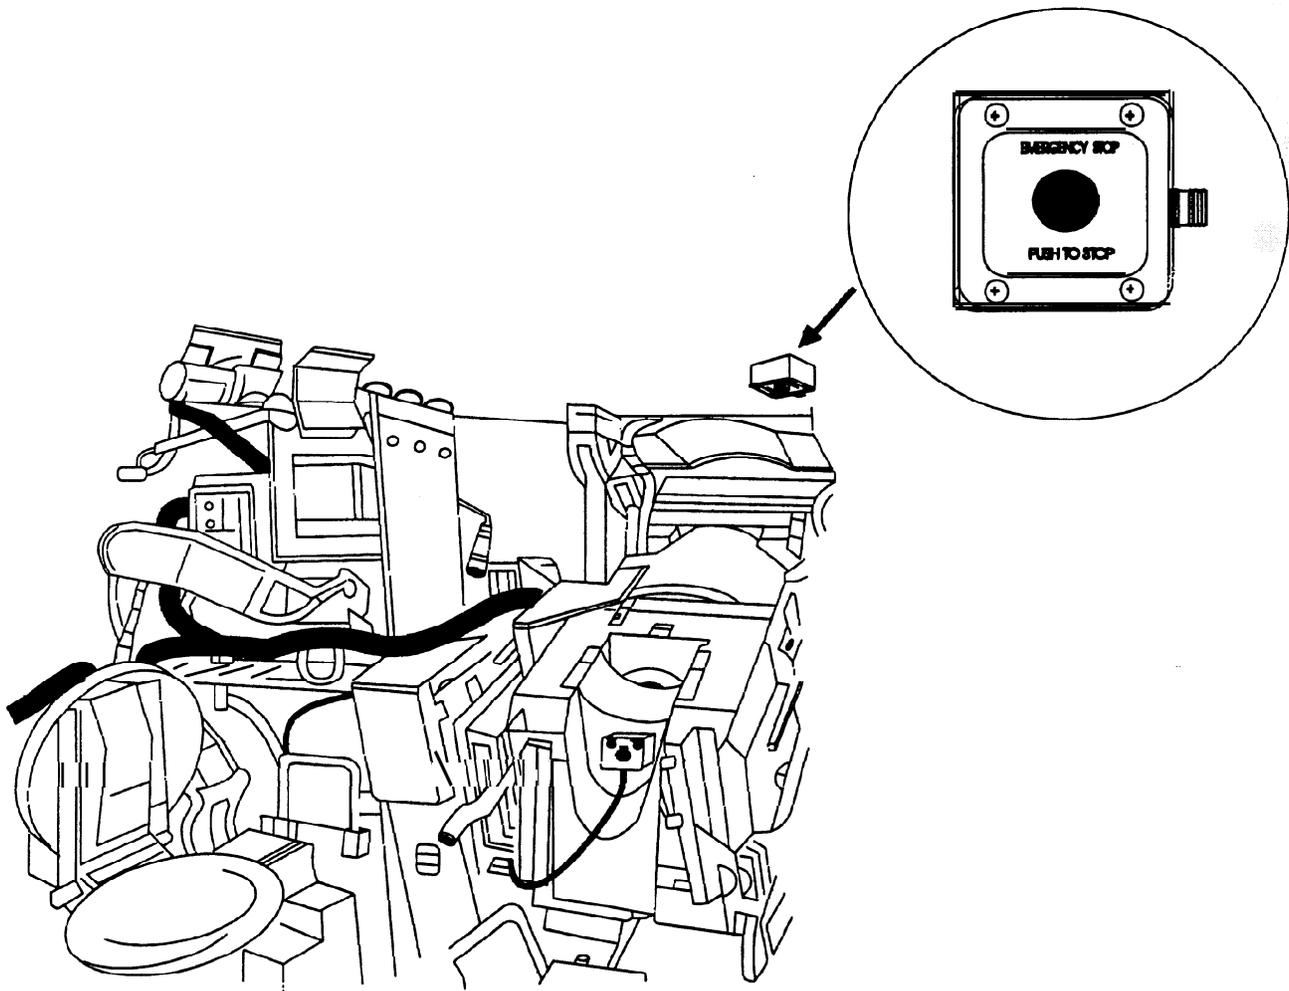

**Figure 2-26. Loader's Breech Switch Facade with Main Gun Status Indicator Lights**
2.3.4.7 Loader's Breech Switch Facade with Main Gun Status Indicator Lights. This switch, shown in Figure 2-26, is contained in a facade mounted on the base of the stub base deflector.